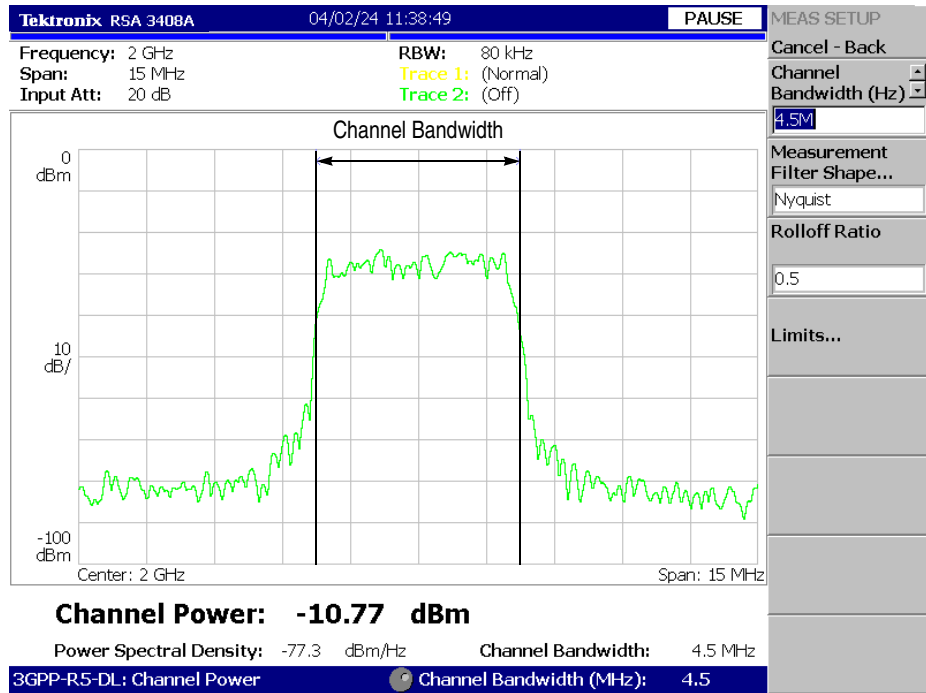

Figure 2-2: Channel power measurement
**Channel Bandwidth.** Sets the frequency range for the measurement using the band marker (see Figure 2-2).
Figure 2-2 shows an example of the channel power measurement.